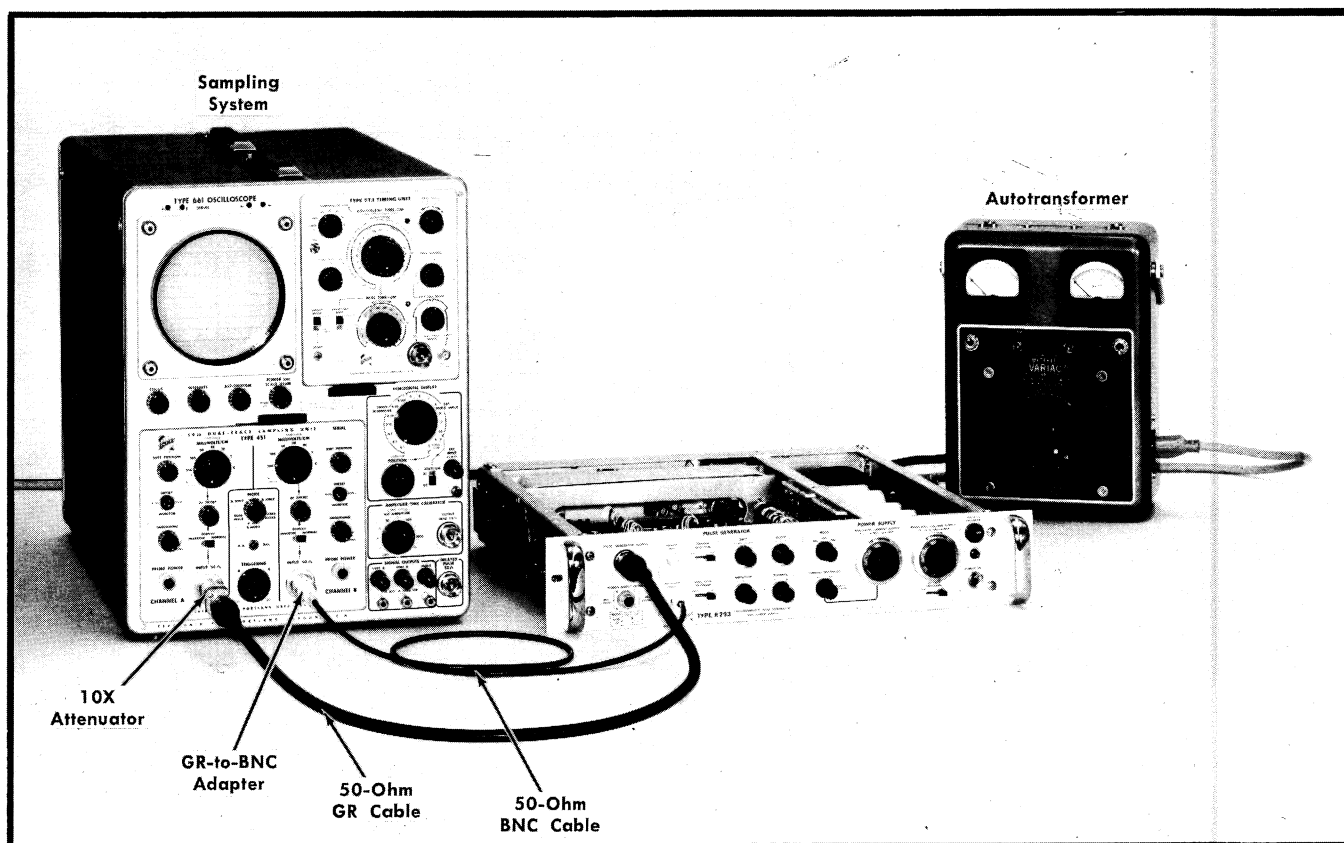

Fig. 6-15. Initial test setup for steps 14 through 18.
a. Test equipment setup is shown in Fig. 6-15.